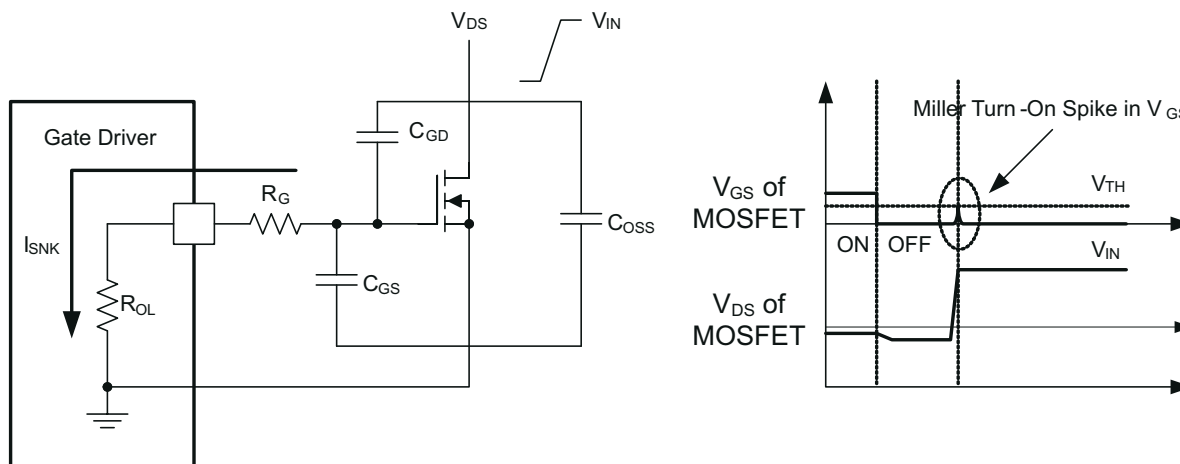

Figure 6-3. Low Pull-Down Impedance in UCC27532 (output stage mitigates Miller turn-on effect)
An example of a situation where Miller turn on is a concern is synchronous rectification (SR). In SR application, the dV/dt occurs on MOSFET drain when the MOSFET is already held in Off state by the gate driver. The current charging the C_{GD} Miller capacitance during this high dV/dt is shunted by the pull-down stage of the driver. If the pull-down impedance is not low enough then a voltage spike can result in the V_{GS} of the MOSFET, which can result in spurious turn on. This phenomenon is illustrated in Figure 6-3.